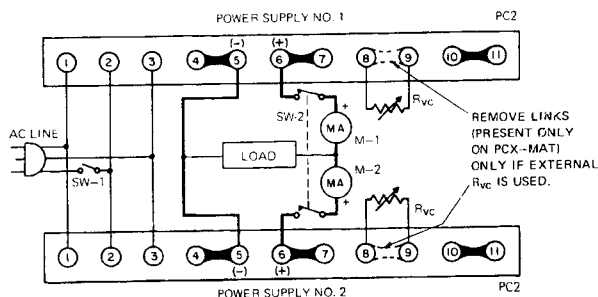

FIG. 3-13 PARALLEL CONNECTION OF PCX-MAT SUPPLIES
3-45 PROCEDURE (Refer to FIG. 3-13)
- a) Connect units as shown in FIG. 3-13. Oper SW-1 and SW-2 and connect to AC input source.